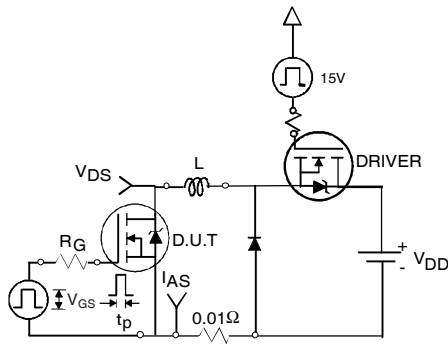

Fig 12a. Unclamped Inductive Test Circuit
- ④ Pulse width $\leq 400\mu s$; duty cycle $\leq 2\%$.
- ⑤ $C_{oss \text{ eff.}}$ is a fixed capacitance that gives the same charging time as C_{oss} while V_{DS} is rising from 0 to 80% V_{DSS} .
- ⑥ Limited by T_{Jmax} , see Fig.12a, 12b, 15, 16 for typical repetitive avalanche performance.
- ⑦ This value determined from sample failure population, starting $T_J = 25^\circ\text{C}$, $L = 0.08mH$, $R_G = 25\Omega$, $I_{AS} = 104A$.
- ⑧ R_G is measured at T_J of approximately 90°C .
3. Equation below based on circuit and waveforms shown in Figures 12a, 12b.